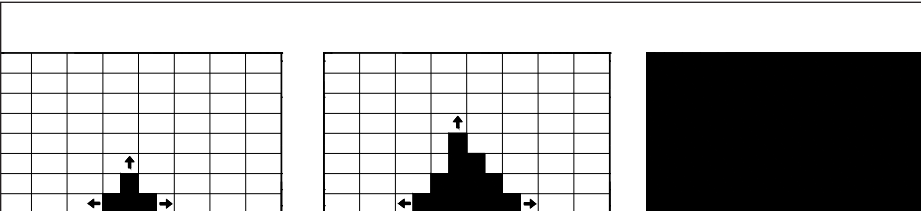

Figure 35: Module Installation Sequence
- 2. Start in the bottom middle of the display and then install left and right. Then move up one row. Refer to **Figure 35**.